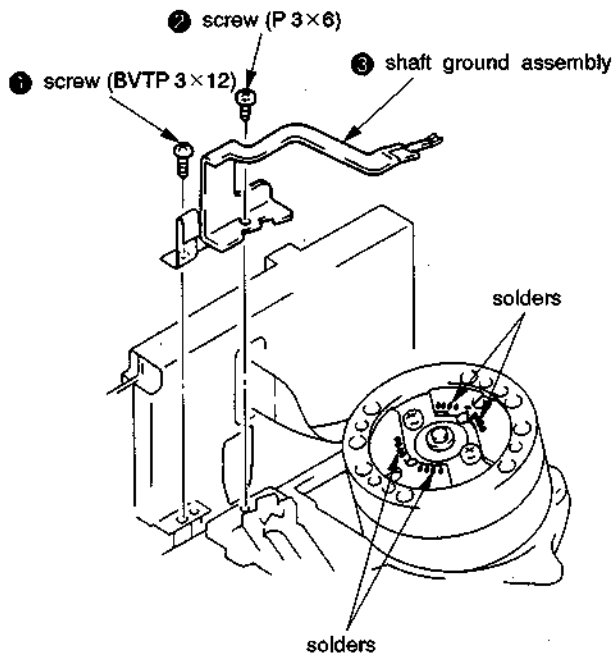
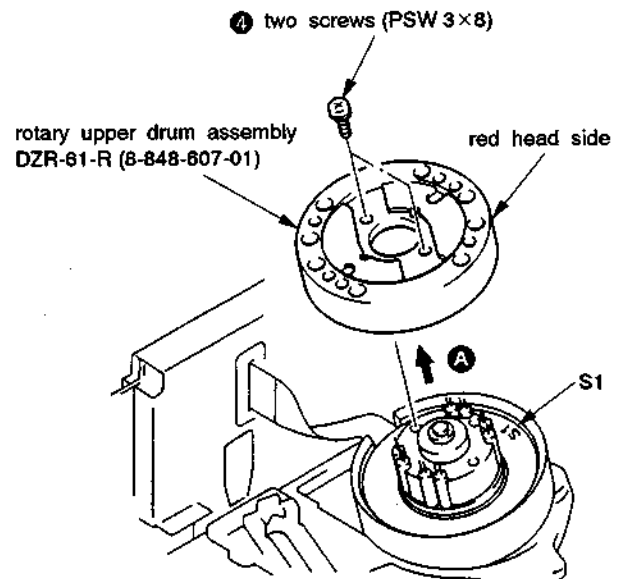

Fig. 4.
Fig. 5.
- 1) Remove the screw ① (BVTP 3×12). (See Fig. 4.)
- 2) Remove the screw ② (P 3×6) and take out the shaft ground assembly ③. (See Fig. 4.)
- 4) Remove two screws ④ (PSW 3×8) and take out the rotary upper drum assembly in the arrow direction ⑤. (See Fig. 5.)
- 2) Mount the rotary upper drum assembly by aligning red head side with marked S1 of rotary transformer board (lower drum) so that the screw holes of both upper and lower drums match. (See Fig. 5.)
- 4) Tighten two screws ④ (PSW 3×8). (See Fig. 5.)
- 6) Fix the shaft ground assembly ③ using the screw ② (P 3×6) so that the protrusion of the shaft ground assembly end contacts the center of the drum shaft.
- Note:** When attaching the shaft ground assembly ③, be careful not to apply force to the spring section of it.
- 7) Tighten a screw ① (BVTP 3×12). (See Fig. 4.)